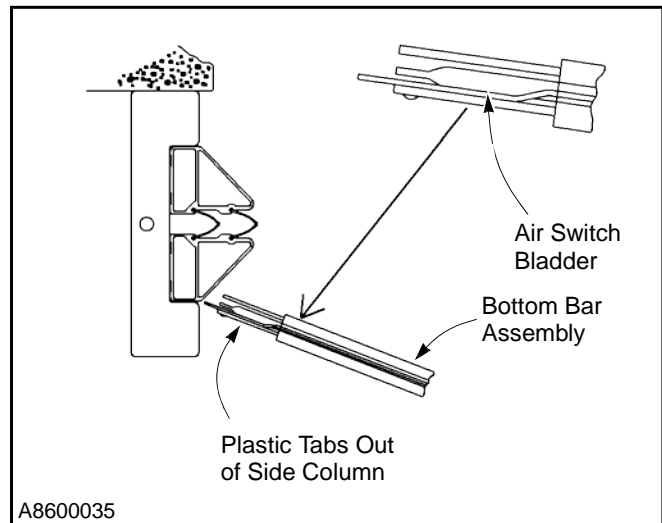
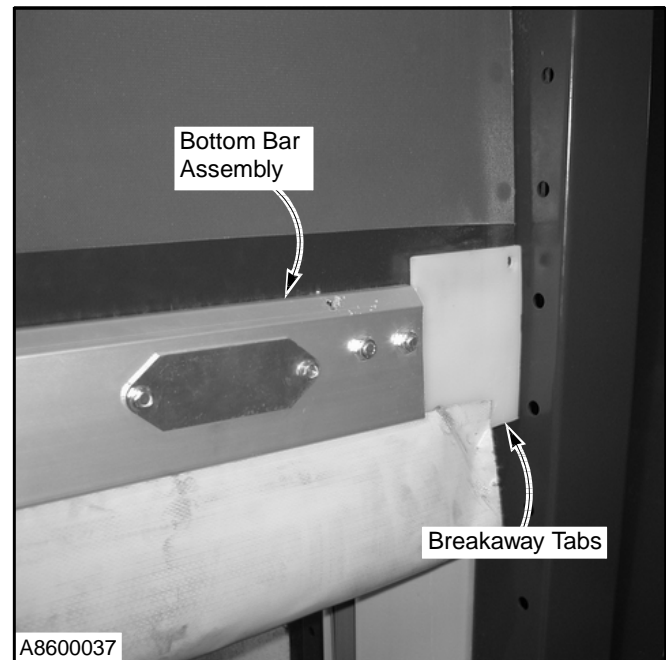

Figure 26
Figure 27
2. Push the breakaway bottom bar out of the side column. Door should not operate until **door** panel is reset. (See Figure 26 and Figure 27.)